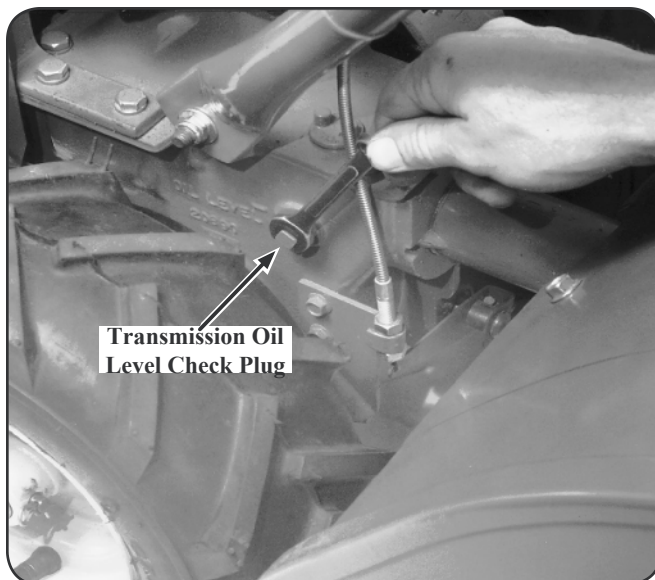

Figure 6-1
3. transmission. Due to dried paint on the plug threads, it may require some force to remove the plug the first time. See Fig. 6-1. The gear oil level is correct if oil starts to flow out of the hole as the plug is removed. If so, securely reinstall the plug.